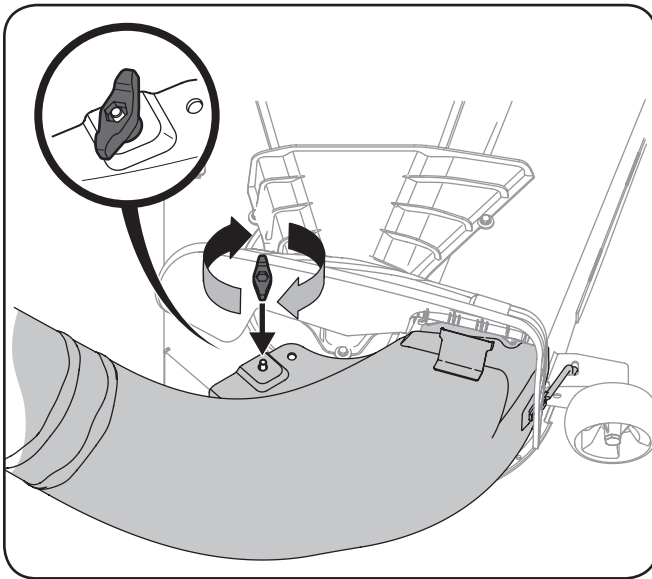

Figure 4-20
- Secure the discharge chute elbow to the cutting deck using a (720-04122) wing knob included with the bagger kit. Refer to Figure 4-20.